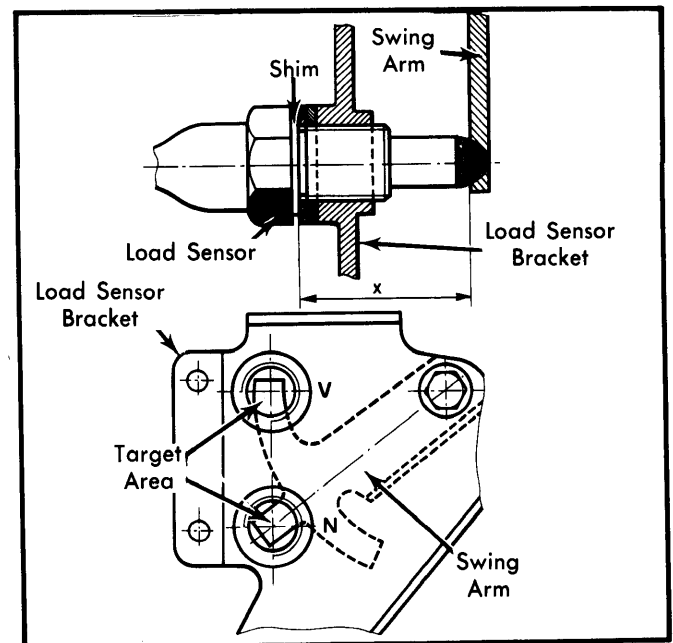

Fig. 3 EGR Load Sensor Adjustment
2) Partially connect connector pins between load sensor and ECB. Expose connector pins but do not break electrical contact. Connect voltmeter to ground and to exposed connector pin on wire 112 or 114. Move swing arm until load sensor is covered by target area. See Fig. 3. Voltmeter should read 5 volts or more. Move swing arm until load sensor is uncovered by target area. Voltmeter should read 2 volts or less.
Position swing arm as shown in Fig. 3. The target area must be positioned in front of threaded holes of bracket as shown. Using a depth gauge, measure distance "X" as shown in Fig. 3. Distance "X" must be 1.138-1.146" (28.9-29.1 mm). If not, remove load sensor and adjust distance "X" using shims.